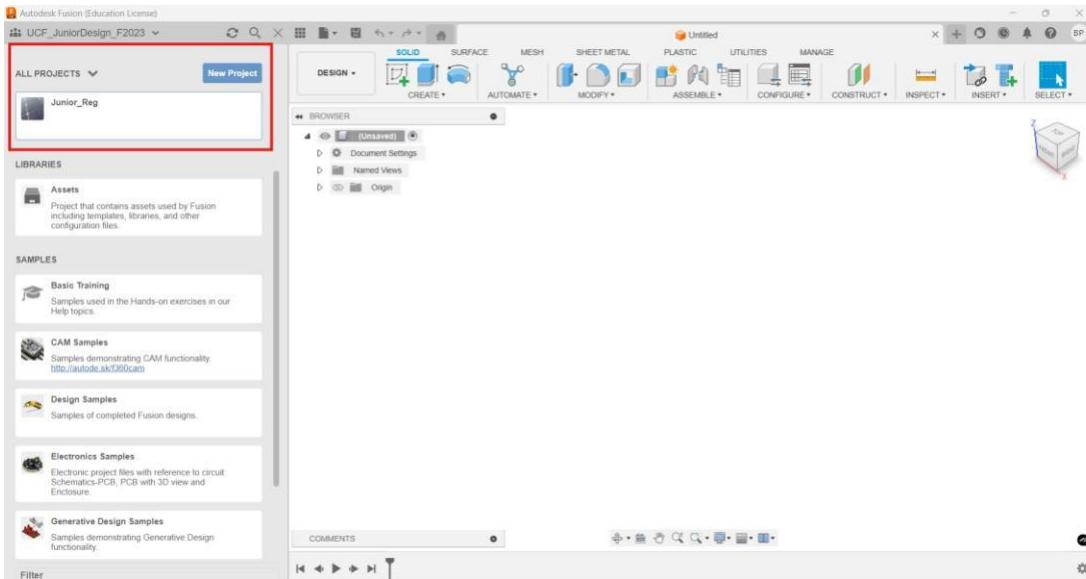

Figure 2: Fusion's control panel screen.
3.2: Start a new project in the data panel (on the left of the screen) and name the project Junior_Reg. You can access the projects from Fusion's data panel window (double click) as shown in Figure 2.